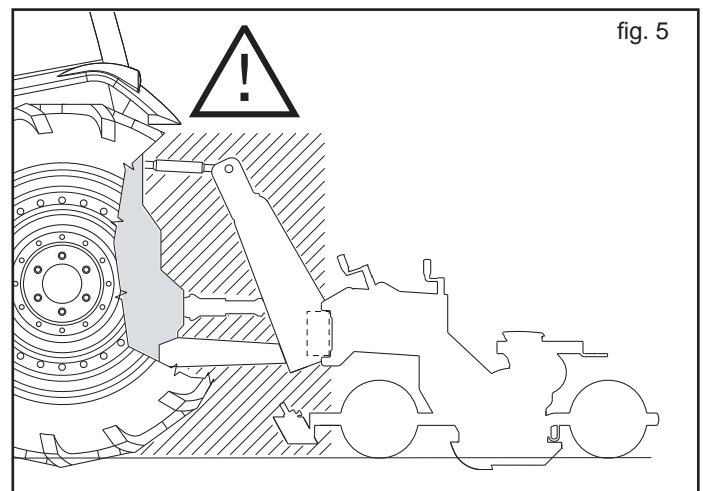

fig. 5
- 25) It is absolutely forbidden to stand between the tractor and linkage for manoeuvring the lifting controls from the outside (Fig. 5).
- 26) It is absolutely forbidden to stand in the space between the tractor and the equipment (Fig. 5) with the engine running. It is possible to work between the tractor and the equipment only after the parking brake has been applied and a suitably sized blocking wedge or stone has been placed under the wheels.